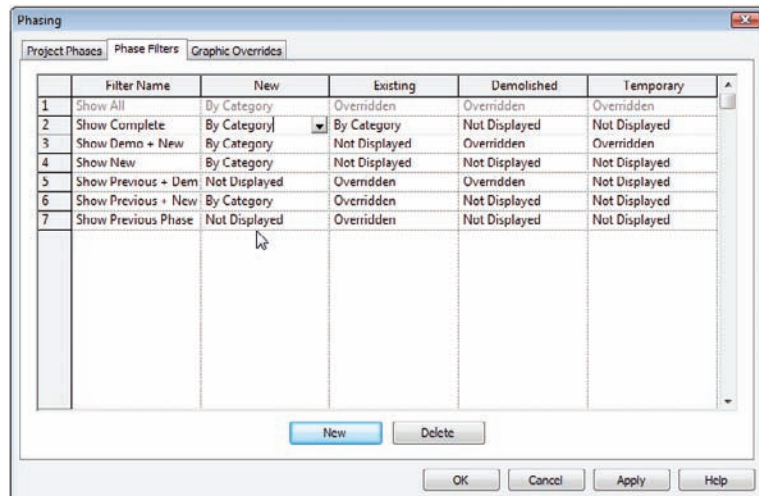

FIGURE 21.19 Phase filters
7. In the Phasing dialog, click the Phase Filters tab. Notice this tab contains the filtering you are using in this project. You can add or modify these filters at any time (see Figure 21.19).